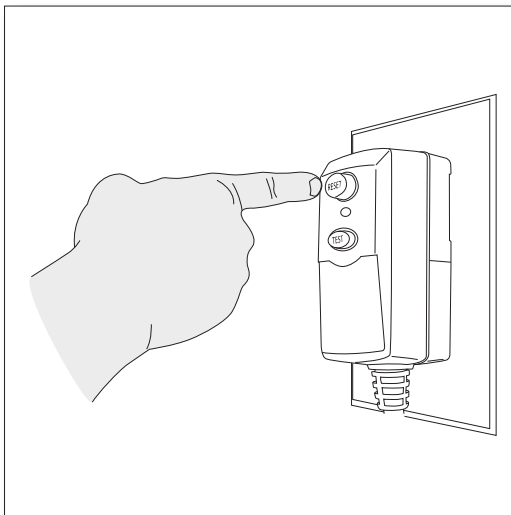

Fig.19
- Unwind the power cord completely and plug the GFCI into a grounded 120 volt outlet. Press the ‘reset’ button on the GFCI box **(Fig. 19)**. The indicator window should show a red color. This must be done each time the unit is plugged in.